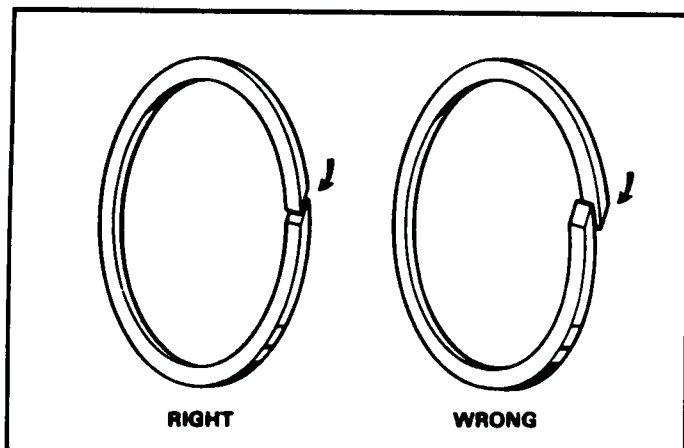

Figure 117
8. Ensure the scarf cut rings are installed properly, as shown in Figure 117.